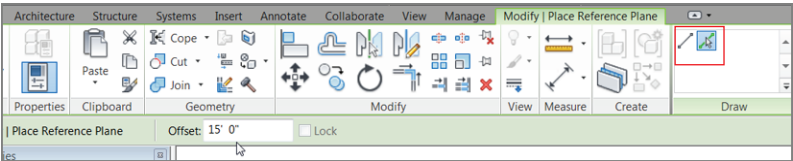

FIGURE 2.4 : Offsetting a reference plane
- 8. On the Draw panel, click the Pick Lines icon, as shown in Figure 2.4.
9. Set Offset to 15'-0" (4500mm) (Imperial users, remember, you can type 15, and metric users type 4500), as shown in Figure 2.4.